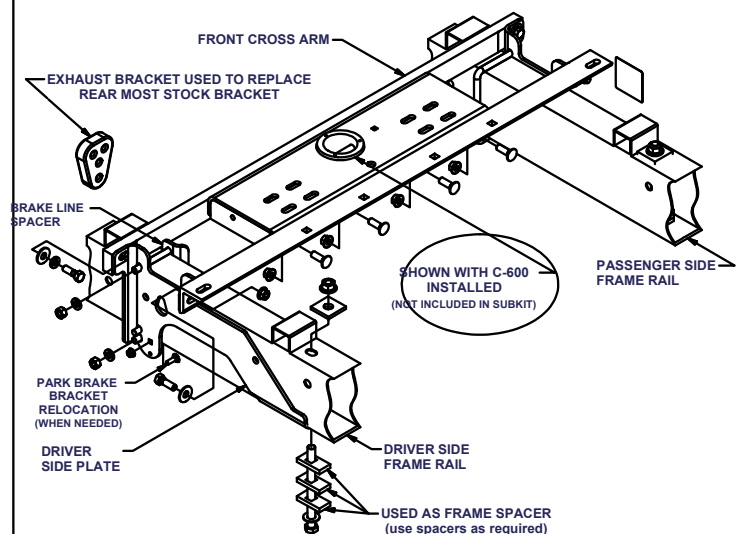

FIGURE 2
- 4) Install the rear cross arm using the clearance notch with the angle oriented in an inverted V position. **On 2006 and newer models**, the angle leg with the notches should face the front of the truck when installing through the notch. Slide the cross arm through until it is resting on the truck frame on both sides. Push the rear cross arm towards the back of the truck against the truck bed rail, then rotate it so that the leg against the bed frame is facing the rear of the truck. (As shown in **Figure 2**)
- 5) Raise the center section in position between the cross arms **with the center hole towards the front of truck**. The round hitch receiver that protrudes from the top of the center section must fit through the hole in the truck bed. Using (4) 1/2" bolts, washers, and lock washers, attach the center section to the threaded holes in the front cross arm. Next, attach the rear cross arm (angle iron) to the center section using (4) 1/2" carriage bolts and flange nuts. (**Finger tight only**)
- 7) Square the center section and cross arms across the frame. Thread a 1 1/2" bolt with a flat and lock washer through the front flange of the sideplate into the front cross arm. Place a 1 1/2" bolt with a flat washer through the back flange of the sideplate into the rear cross arm. (As shown in **Figure 2**) **Finger tight** with a 1/2" flange nut. (**REPEAT FOR OTHER SIDE.**)